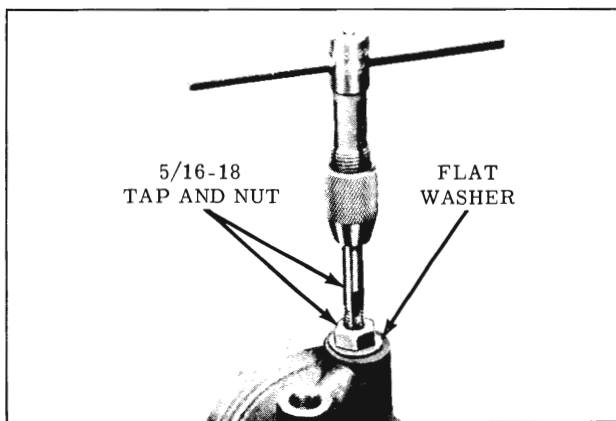

Fig. 4-246 Removing Hose Connector
3. With the steering gear in a vertical position, thread the tap into the connector seat not more than 3 turns. (Fig. 4-246)